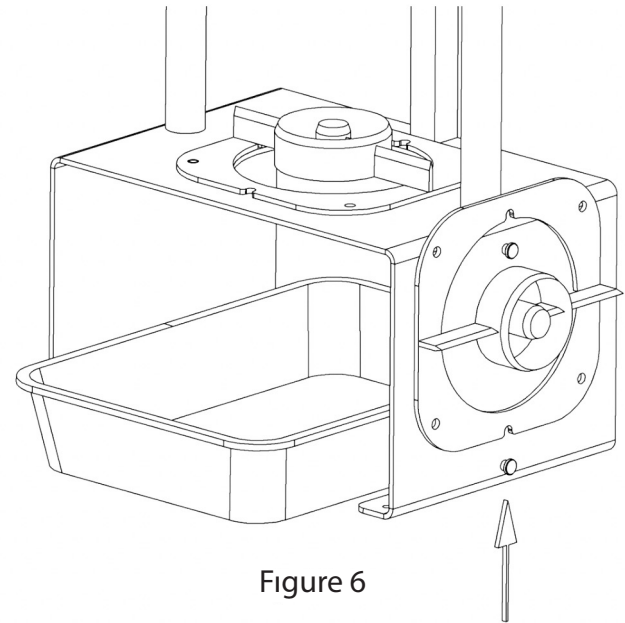

Figure 6
- In order to take the knife out, hold from the unsharp edge and take it out by lifting it up. To attach the blade, it would be sufficient to fit the holes of the blade on the blade fixing pins (31) on the foot.
- If you bought extra knife. You can hang it on the blade hanger pin system (32) (Figure 6)